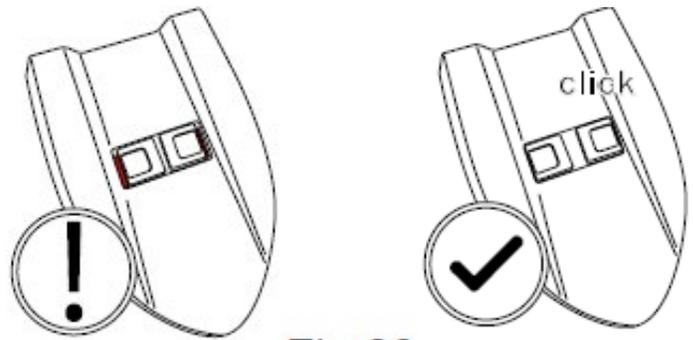

Fig.20
(Fig.20).
*INFORMATION: The lid is correctly installed when the RED background presented by the recesses of the two catches can NOT be seen (fig. 20).*